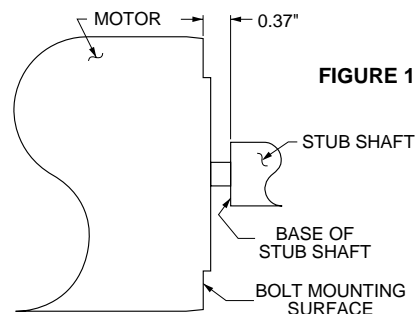

FIGURE 1
1. Liberally apply Loctite RC/680 retaining compound to the motor shaft and slide the stub shaft on, positioning the base of the stub shaft 0.37" from the bolt mounting surface of motor and two of the four set screw holes over the keyway in the motor shaft. For clarification refer to figure 1 below. Loctite aids in preventing fretting and subsequent shaft failure. Wipe off excess Loctite. Apply Loctite to the two dog point (flat point) set screws, position in the set screw holes aligned with the keyway of the motor shaft and torque to 55-60 in.-lbs. Apply Loctite to the two cap point screws and torque to 85 - 90 in.-lbs.